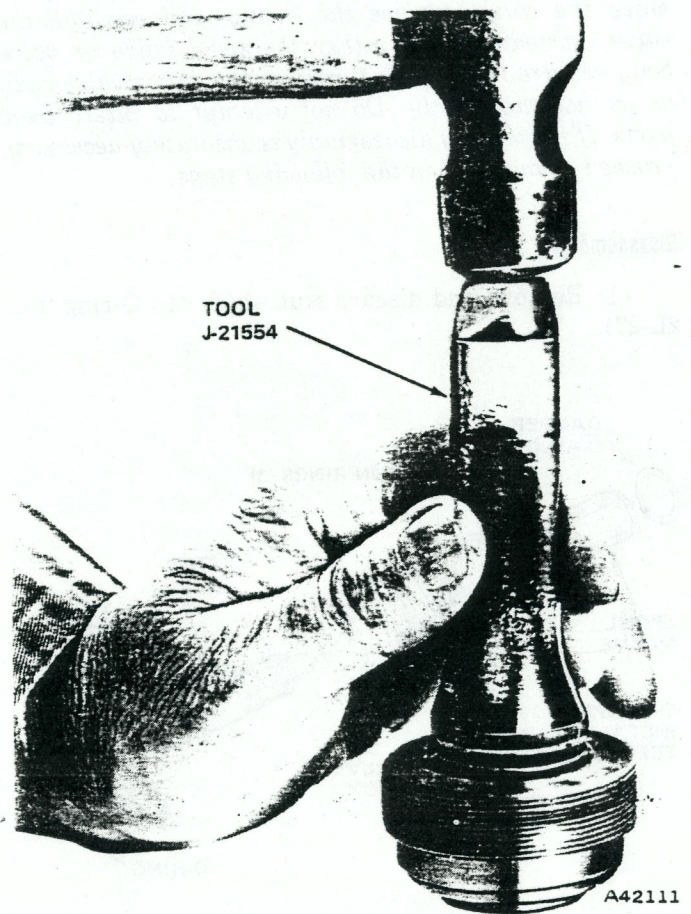

Fig. 2L-26 Stub Shaft Seal Installation
(4) Install stub shaft seal in adjuster plug using Tool J-21554 (fig. 2L-26). Install seal deep enough to provide clearance for dust seal and retaining ring.